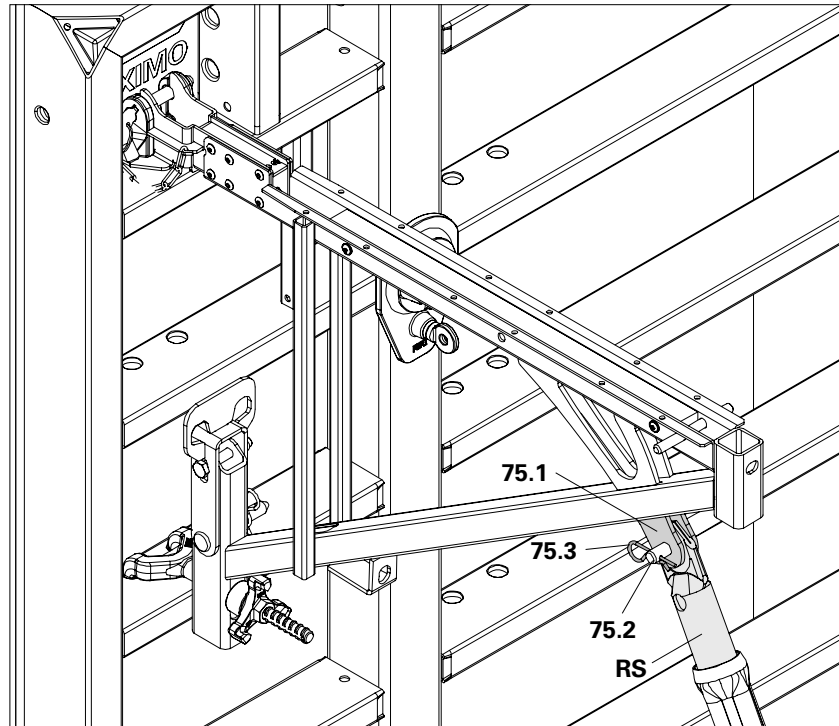

Fig. A6.01b
Connect Push-Pull Prop (RS) and connection lugs (**75.1**) with bolts (**75.2**) and cotter pins (**75.3**). (Fig. A6.01b)